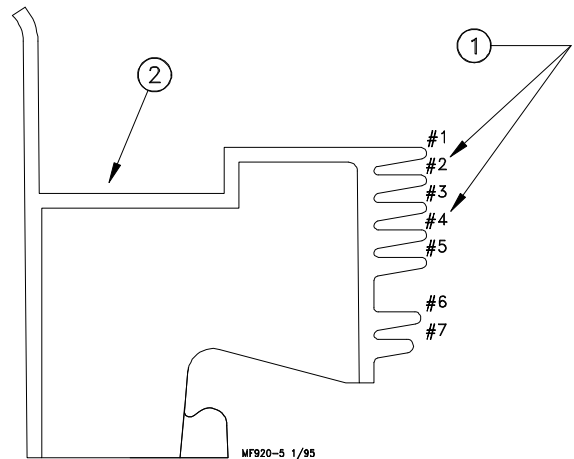

Figure 25. (Side View)
1. Broilers: Position the lip of the feeder pan in the #2 tab of 2 of the struts. See Figure 25.
Turkeys: Position the lip of the feeder pan in the #4 tab of 2 of the struts. See Figure 25.